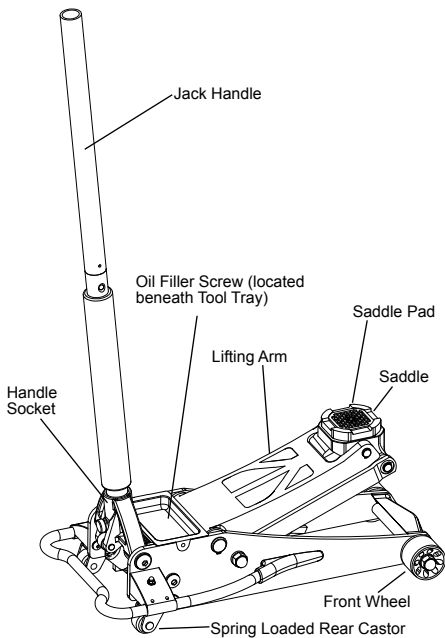

FIG. 3
Compare Fig. 3 illustration with your jack BEFORE operation to become familiar with the location of various jack components.
- Close the release valve by turning the jack handle clockwise until tight. (see Fig. 3)
- Refer to the vehicle manufacturer's owner's manual to locate approved lifting points on the vehicle. Position jack so that the saddle (see Fig. 3) is centered under the load at an appropriate lift point.
- Position the jack on level ground and fully lower the saddle. (Ram will be all the way in). Remove oil filler screw from the reservoir (see Fig. 3 & 4).